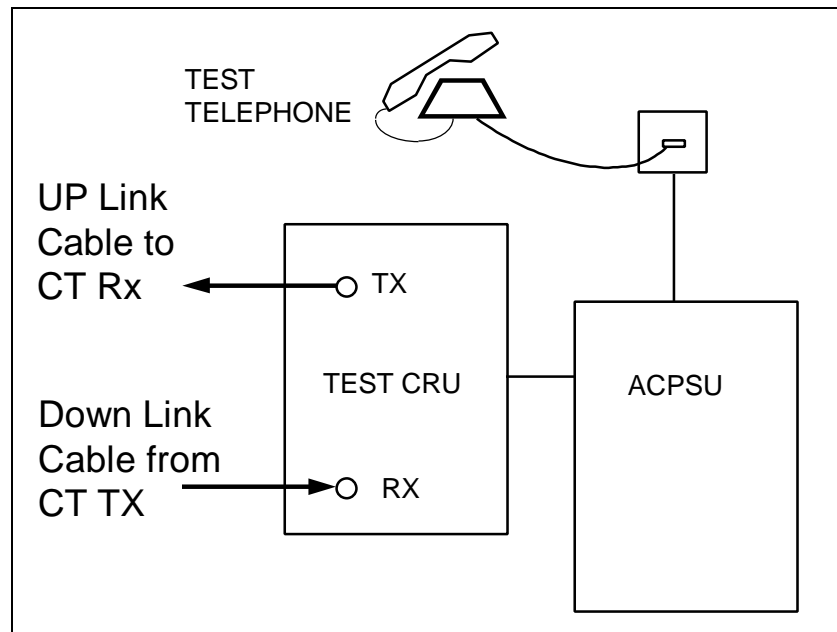

Figure 7-5. Test CRU Connections.
- e) Connect the cables and termination's to the Subscriber Terminal Test Unit (Test CRU) as shown in Figure 7-5.